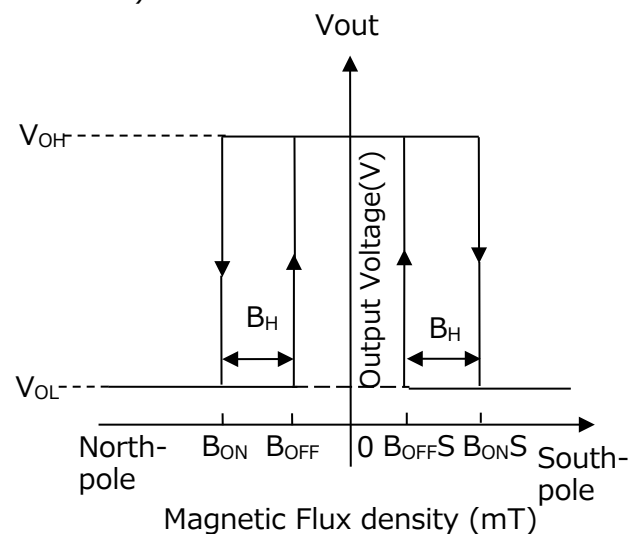

Fig.10 Magnetic operating characteristics
- ③ South-pole and North-pole, dual detection type (Fig.10 shows the magnetic operating characteristics)